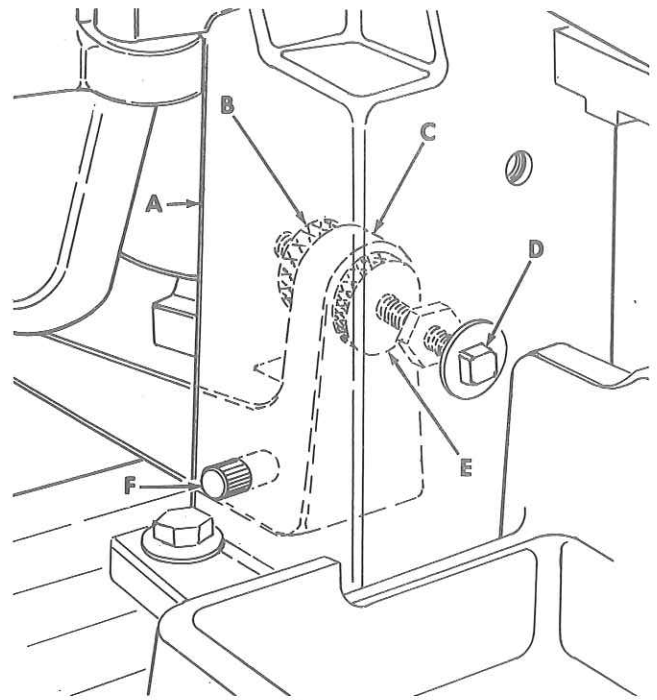

Figure 6
1. Remove knurled collar (B, Fig. 6) and washer from the motor base adjusting screw (D).
2. Insert hinge pin (F) through the countershaft (A) and motor base (C).
3. Replace washer and knurled collar (B) on motor base adjusting screw (D).
4. Loosen motor base adjusting screw (D, Fig. 6).